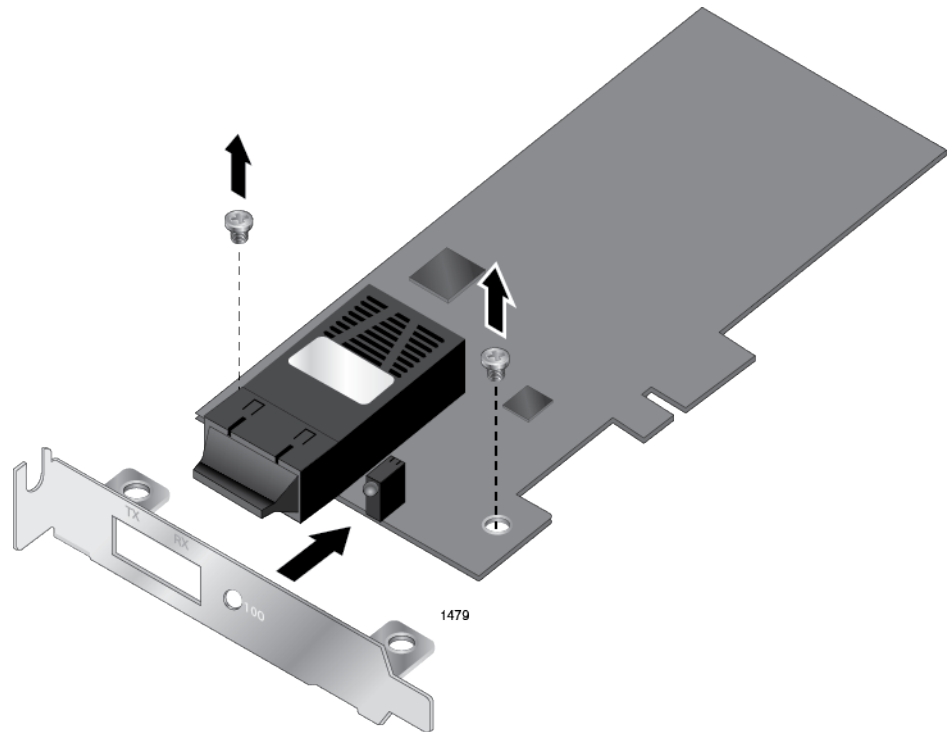

Figure 10. Removing the Low-Profile Bracket
1. Remove the screws that attach the bracket to the network adapter. See Figure 10.